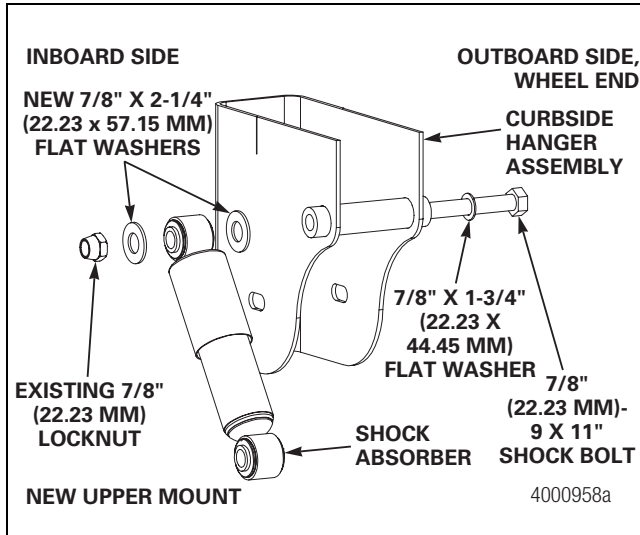

Figure 2
- Install the new 7/8-inch x 2-1/4-inch O.D. (22.23 x 57.15 mm) washer between the shock tube and shock absorber. Install the new, larger washer between the shock absorber and locknut. Hand-tighten the nut. Figure 2.
6. Install the new 7/8-inch x 2-1/4-inch O.D. (22.23 x 57.15 mm) washer onto the upper shock absorber bolt between the shock tube and the shock absorber. Install the larger-diameter washer and locknut. Hand-tighten the nut. Figure 2.